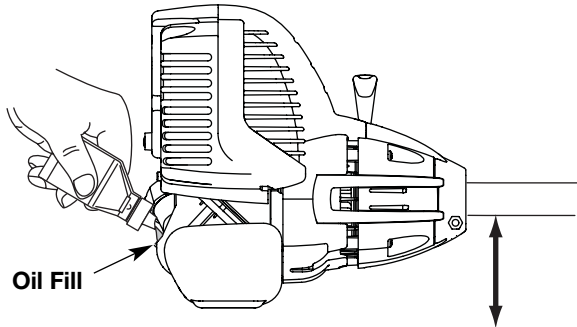

Fig. 6
2. Place the unit on a flat level surface (Fig. 6).
4. Pour the entire bottle of oil into the oil fill hole (Fig. 6).